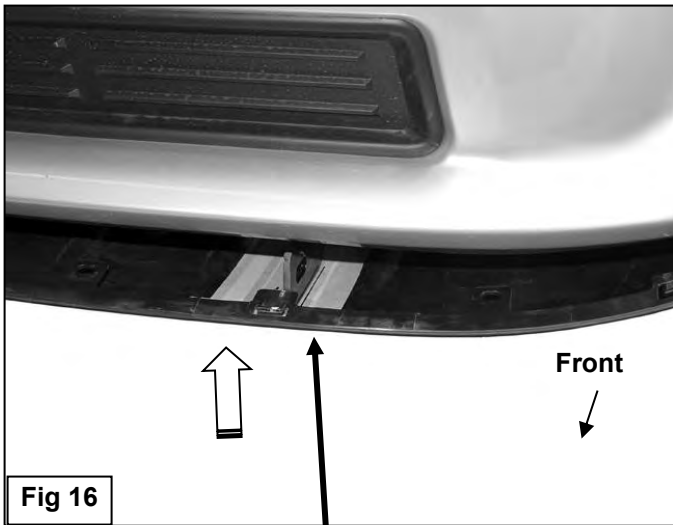
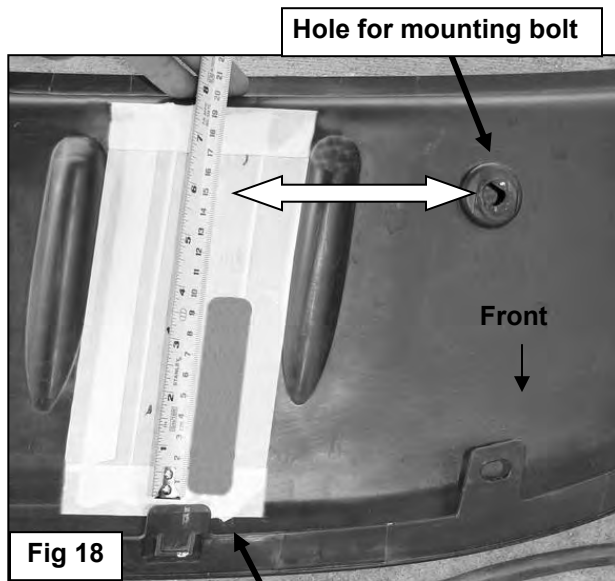

Fig 16
Fig 18
7. Stand back from the vehicle and check to see that the Bull Bar is centered and level on the vehicle and adjust as necessary. Tighten only the hardware securing the Upper and Frame Mounting Brackets to the vehicle first. Next tighten only the (4) 8mm Hex Bolts securing the Tube Brackets to the Bull Bar as described in **Step 4**. Do not tighten the 12mm hardware attaching the Tube Brackets to the Frame Mounting Brackets. Remove the Bull Bar with Tube Brackets attached.
8. Hold the splash guard up to the bumper cover and align it with the mounting points, **(Figure 15)**. Mark the location of the Mounting Brackets onto the back of the splash guard, **(Figures 16—18)**. Cut an approximately 1" wide by 4" long slot in the splash guard, **(Figure 18)**. **NOTE:** The size of the slot is an estimate only and may vary due to different factory designs for the splash guards and front bumper covers. Also, additional cutting may be required to clear the Support Bracket on vehicles equipped with tow hooks. **IMPORTANT:** To avoid weakening the splash guard, do not cut the slot any larger than necessary. Do not cut through the front or back edges of the cover, **(Figure 18)**. Make several small cuts first and check the fit often for a clean installation.